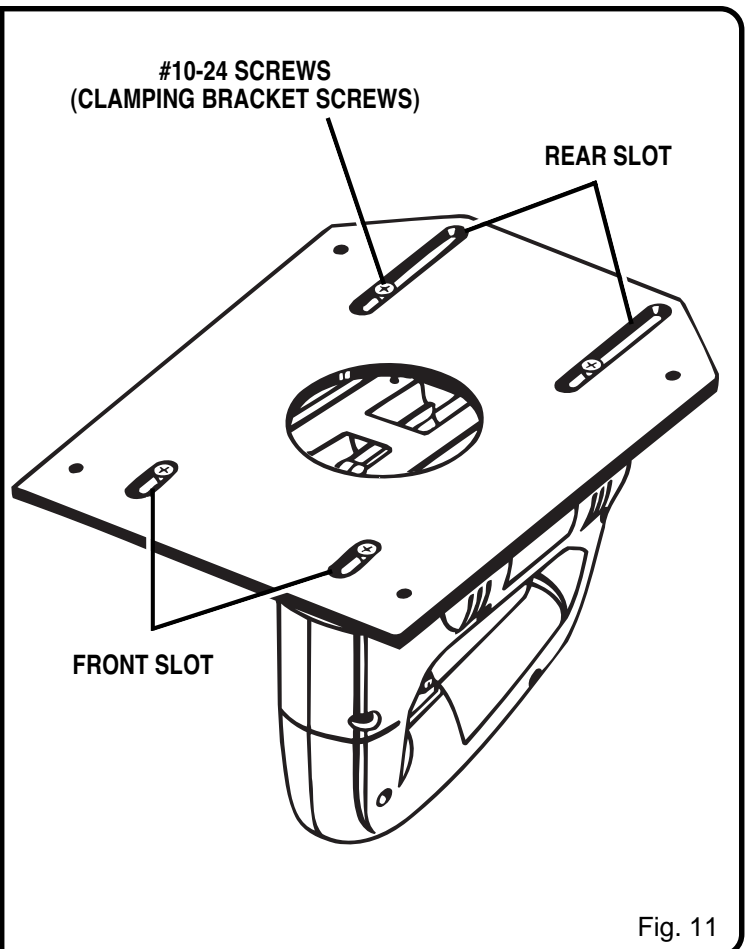

Fig. 11
See Figure 11.
1. Once properly assembled and adjusted, your jig saw and mounting plate assembly should be similar to the illustration shown in figure 11.